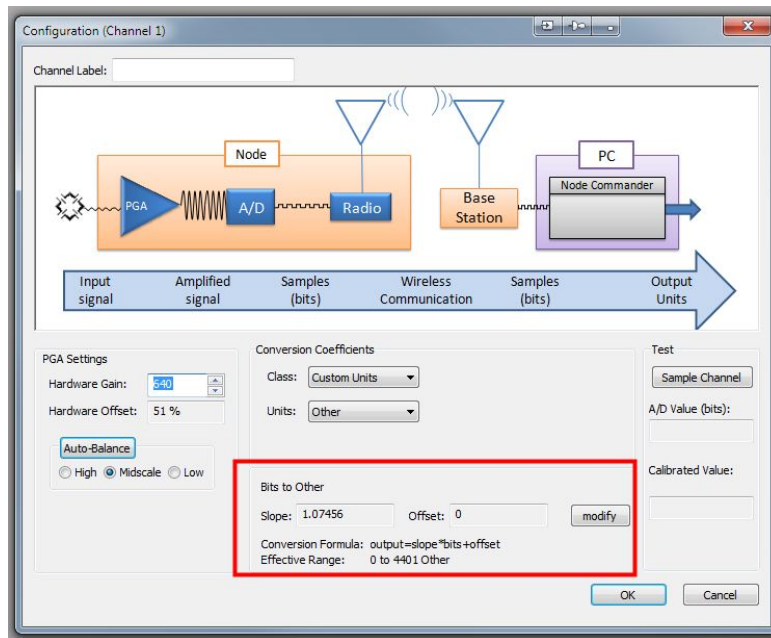

Figure 6 – Channel 1 Configuration screen in Node Commander® software indicating location of slope and offset textboxes.
- Click the Modify button and enter the Torque slope 0.178462 into the Slope textbox and 0 (zero) into the Offset textbox as shown in *Figure 6*. Click Lock button to set.